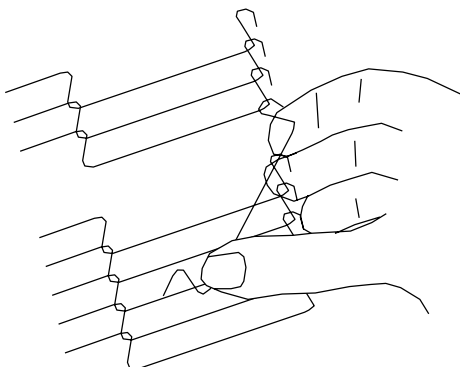

Figure 4-24.
3. Remove the outside master links on the right and left sides of the conveyor belt as shown in Figure 4-24.